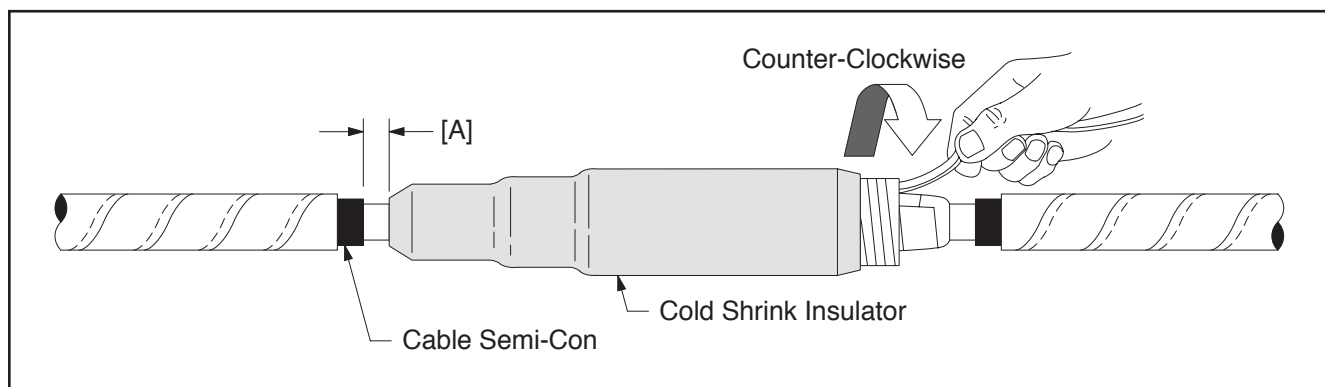

Figure 12
- Slide cold shrink insulator short tube with tapered ends over connector area. Align end of insulator (not core) at dimension A, *Table 2* and (*Figure 12*).
- Remove core by unwinding counter-clockwise (*Figure 12*).